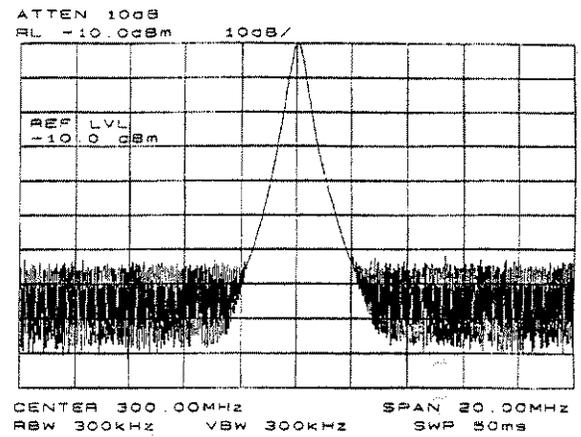

Figure 1-5. Signal Peak Set to Reference Level
- Set the amplitude. Generally, placing the signal peak at the reference level provides the best measurement accuracy. To adjust the signal peak to the reference level (Figure 1-5), press **AMPLITUDE**, then key in 10 **dBm**, or use either the step keys or the knob. Using the knob is the easiest way of fine-tuning the signal peak to the reference level, which is at the top of the screen.